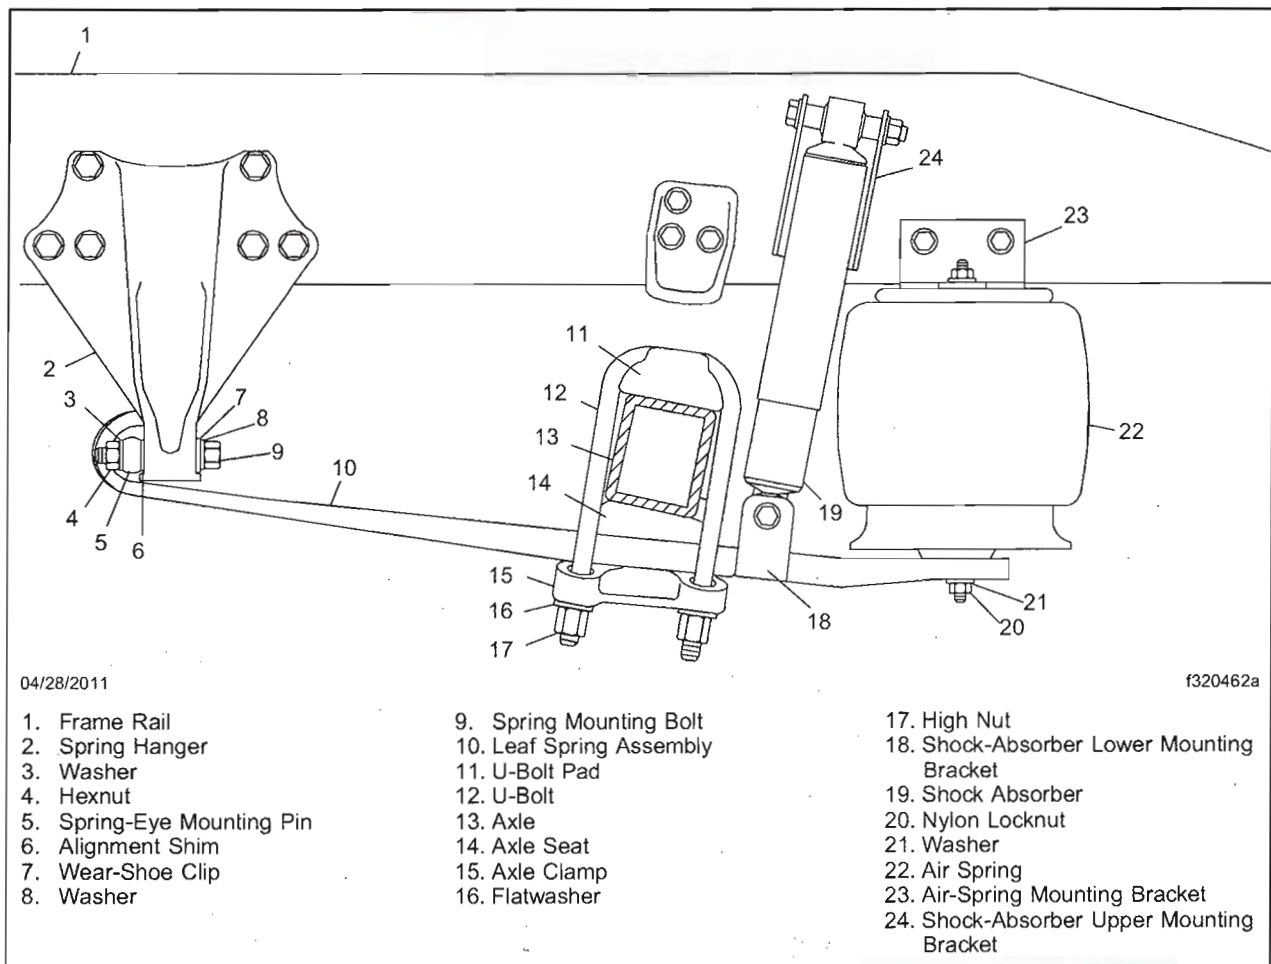

Fig. 3, AirLiner Leaf Spring Assembly
2. Remove the nut, bolt, and washers from the shock-absorber lower mounting bracket. See Fig. 3.